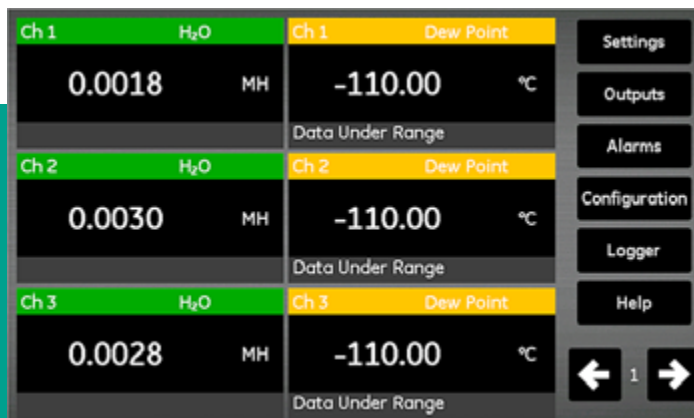

Figure 27: Measurement display screen
3. A measurement display screen, similar to that shown in *figure 27* below.
The measurement display screen shown in *figure 27* above is a touch screen which includes the following items: